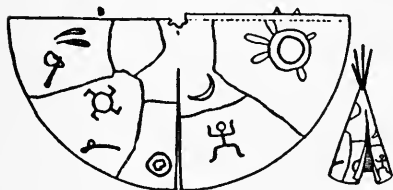

FIG. 351.
**An Indian Teepee** will also be required for Indian warfare. Follow the pattern shown in Fig. 351, marking